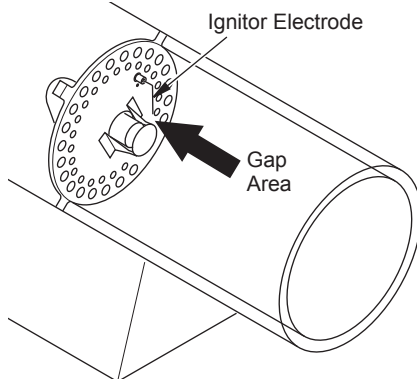

Figure 14 - Clearance Between Ignitor Electrode and Target Plate
7. Set gap between ignitor electrode and target plate to 0.17" (43.18 cm) (see Figure 14).